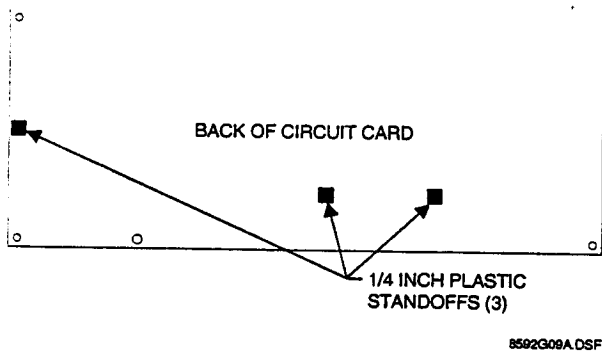

Figure 2. Installing the Board Standoffs
1. Snap the three plastic standoffs (included in the accessory kit) into the back of the circuit card as shown in Figure 2.